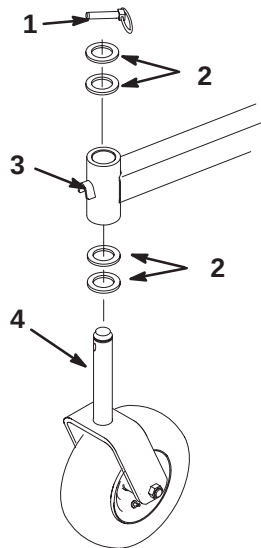

Figure 59
2. Remove the locking pin and spacer(s) from the top of the caster wheel fork (Fig. 59).
6. Inspect the caster wheel fork for wear and replace if necessary (Fig. 59).
7. Slide the caster wheel fork through the bushings in the mounting tube. Replace the spacer(s) onto the fork and secure with the retaining ring (Fig. 59).